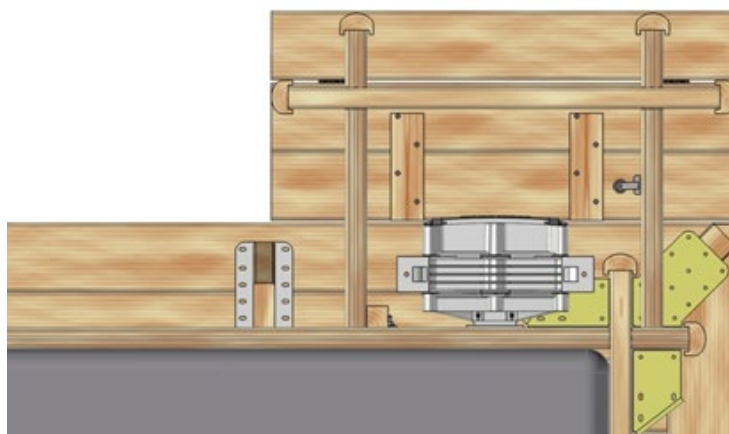

Figure 59 – View from below– Position of the cover pit
Place the two 626 cm slats (1) that will constitute the cover pit widths on the ground against the pool in the exact location where the cover pit should be installed (*Figure 59*), then slot the 905 cm slats (3) that will constitute the lengths into position. Build up the rows checking regularly that the corners are square and that the walls are level. Make sure that the slats are fully engaged in each other. Finish with slats 2 and 5.